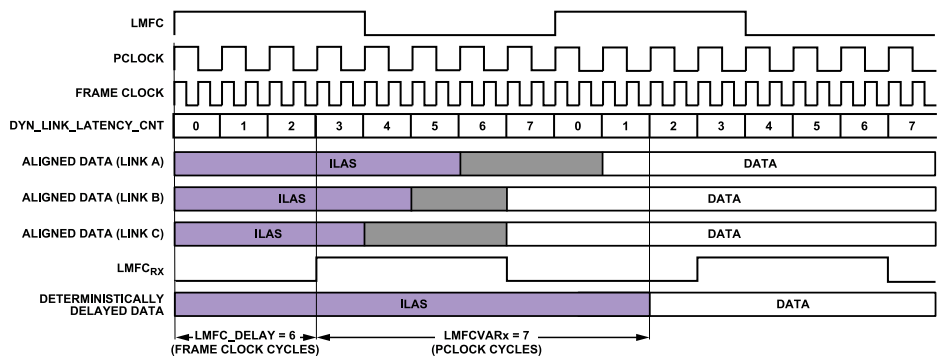

Figure 56. Multilink Synchronization Settings, Derived Method Example
Figure 56 shows how DYN\_LINK\_LATENCY\_x (Register 0x302 and Register 0x303) provides a readback showing the delay (in PClock cycles) between LMFCRX and the transition from ILAS to the first data sample. By repeatedly power-cycling and taking this measurement, the minimum and maximum delays across power cycles can be determined and calculate LMFCVar and LMFCDel.
The example shown in Figure 56 is demonstrated in the following steps according to the procedure outlined in the Without Known Delays section. Note that this example is in Subclass 1 to achieve deterministic latency, which has a PClockFactor (FrameClockRate/PClkRate) of 2 and uses K = 16; therefore PClocksPerMF = 8.
1. In Figure 56, for Link A, Link B, and Link C, the system containing the AD9154 (including the transmitter) is power cycled and configured 20 times. The AD9154 is configured as described in the Device Setup Guide section. As the point of this exercise is to determine LMFCDel and LMFCVar, the LMFCDel is programmed to 0 and the DYN\_LINK\_LATENCY\_x is read from Register 0x302 and Register 0x303 for Link 0 and Link 1, respectively. The variation in the link latency over the 20 runs is shown in Figure 56 in gray.